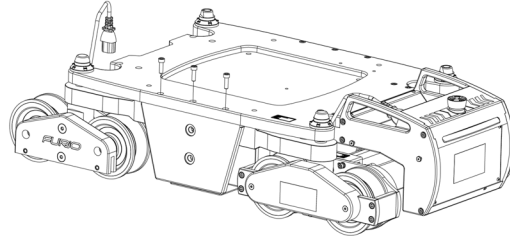

Figure 16 - Three Screws that Secure the Side Plate
3. Reinstall the other side cover plate using a 5 mm hexagonal wrench to tighten the three screws from Furio Studio BPS Upgrade Procedure“Remove the Side Cover Plates” above. Refer to **Figure 16**.